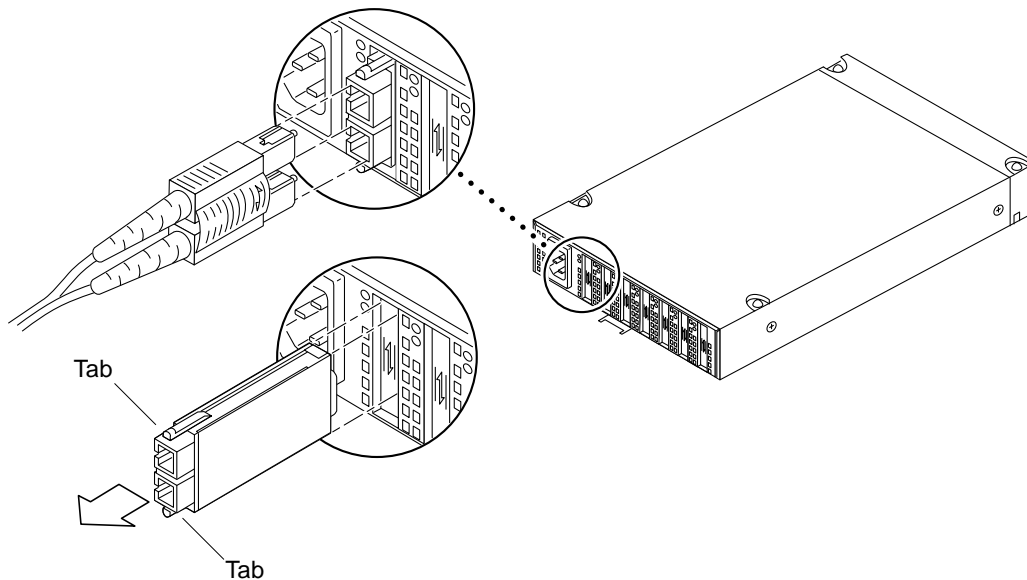
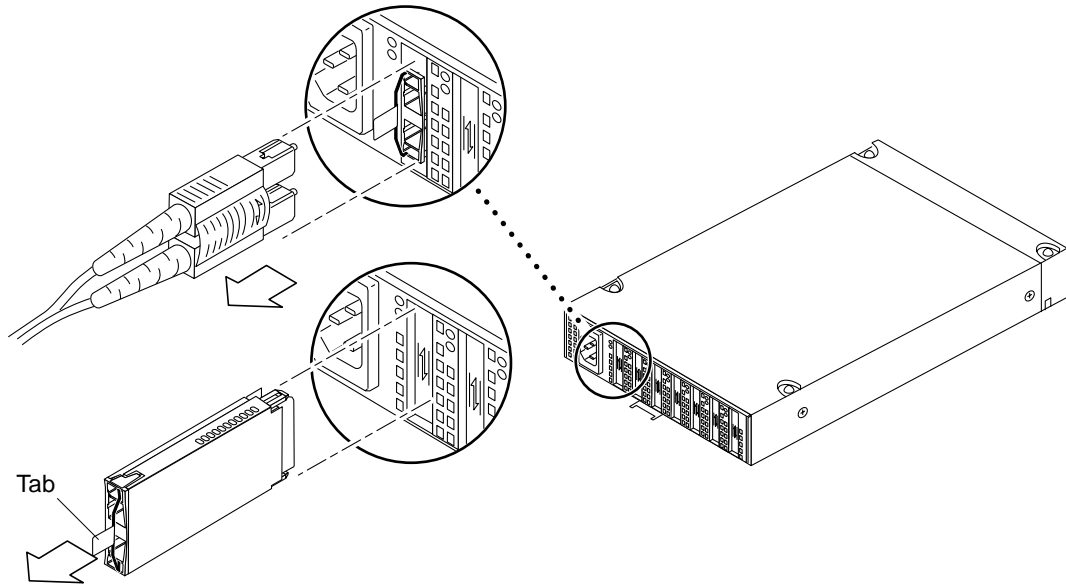

FIGURE 3-3 Removing a GBIC That Does Not Have a Bail
FIGURE 3-4 Removing a GBIC That Has a Bail
1. Disconnect the fiber optic cable from the GBIC (FIGURE 3-3 or FIGURE 3-4).
1. Disconnect and remove any installed fiber optic cables or GBICs (FIGURE 3-3).